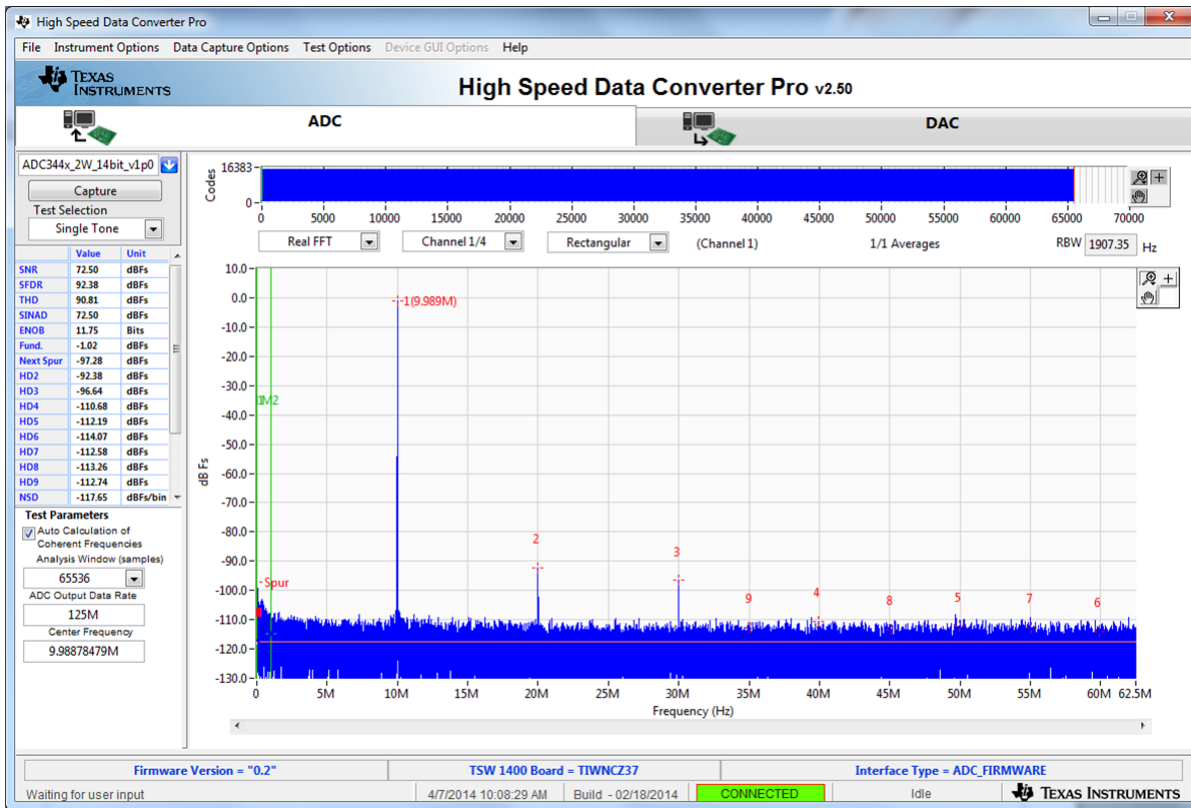

Figure 15. ADC3xxx Operating in 14-Bit Mode at 125 Msps with 10-MHz Input Signal
4. Select number of sample points (and resulting number of FFT bins) to be used. The example shown in Figure 15 has 65536 samples.
5. Enter the ADC32/34xx Sampling rate. The example shown in Figure 15 has the sample rate set at 125 Msps (filtered clock input around 10 dBm).
6. Enter the input frequency desired. If the clock and input frequency signal generators are synchronized, then make sure the checkbox for coherent frequency is checked and set the input frequency signal generator to the input frequency displayed. The example shown in Figure 15 has the input frequency set at 10MHz (9.98878479MHz if coherent). Filtered signal input around 10 dBm – adjust to achieve –1 dBFs on the HSDC Pro FFT.
9. Observe an FFT result similar to that of Figure 15